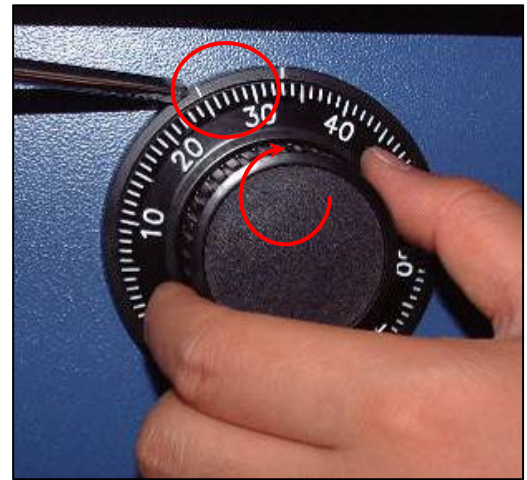

Fig.2
4. Turn to the clockwise and stop at "25" at the third time as shown in the Fig.2.